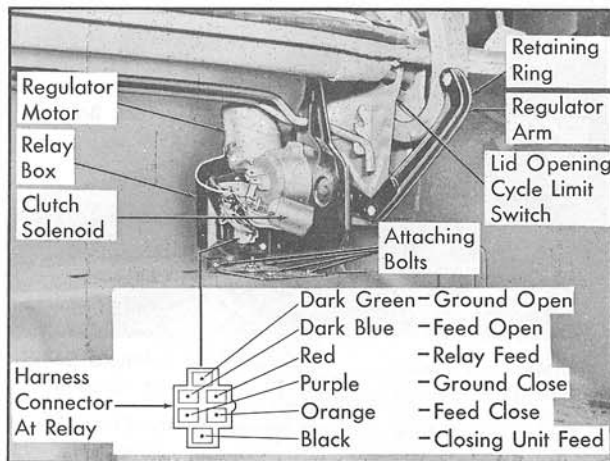

Fig. 17-91 Compartment Lid Regulator Assembly
a. If the motor operates and regulator does not move lid, the clutch solenoid is inoperative, Fig. 17-91.
2. Connect one end of #12 gauge jumper wire to power source and other end to red wire terminal of connector on relay, Fig. 17-91.